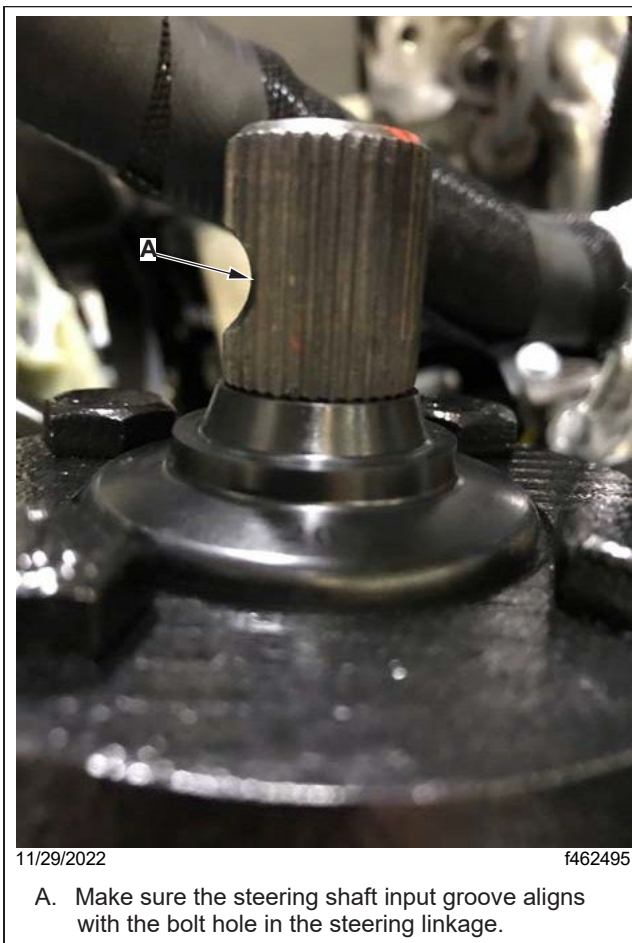

Fig. 10, Steering Linkage Installation
19. Make sure the bolt hole in the steering linkage, and the groove on the steering gear input shaft align properly. Install the steering linkage on top of the gear. See Fig. 10.